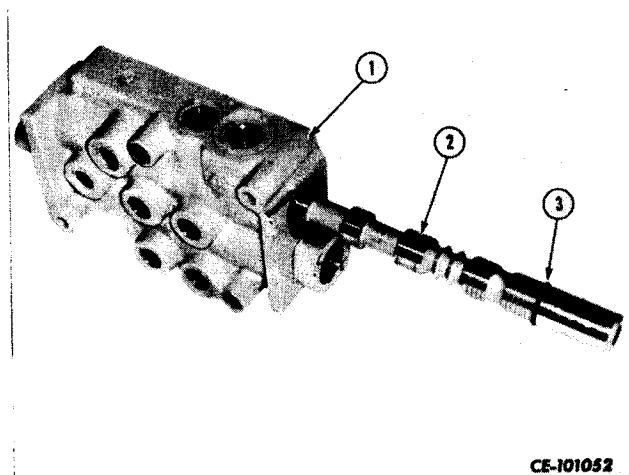

Figure 4-54
Carefully slide spool (2, Fig. 4-54) out of valve body (1). Remove snap ring (3) from spool.
Install snap ring (3, Fig. 4-54) on upper spool (2). Carefully slide spool, lubricated with clean transmission fluid, into valve body (1). Install end caps on both ends of spool and secure to valve body with socket head screws.